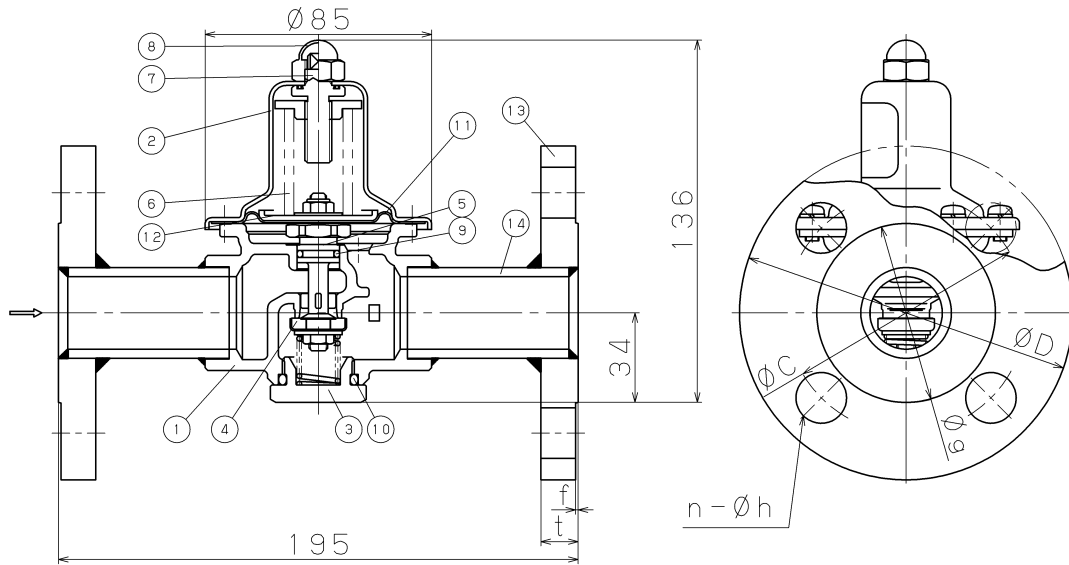

fig. 5
2.3 GD-43-20 Type, GD-43N-20 Type (Refer to fig. 5, table 5, and table 6.)